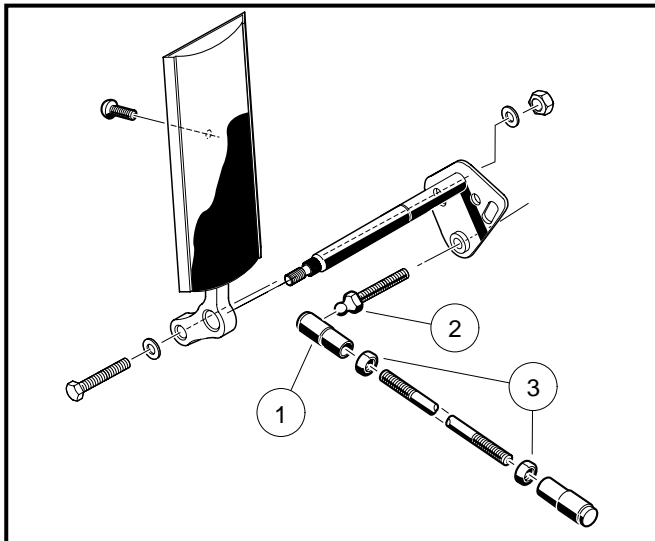
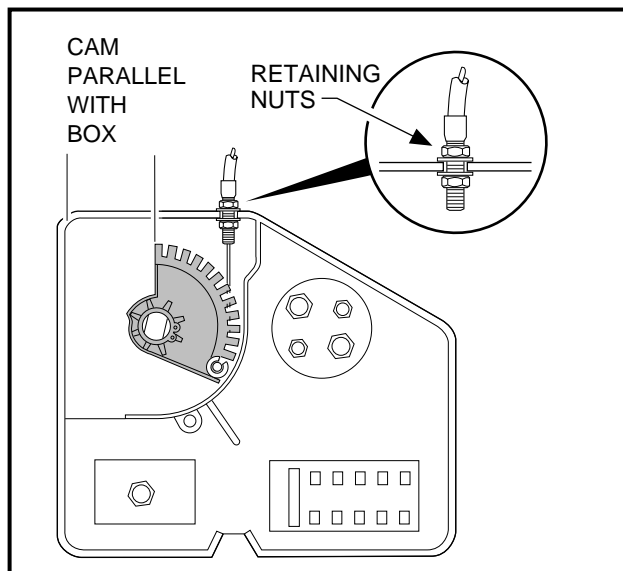
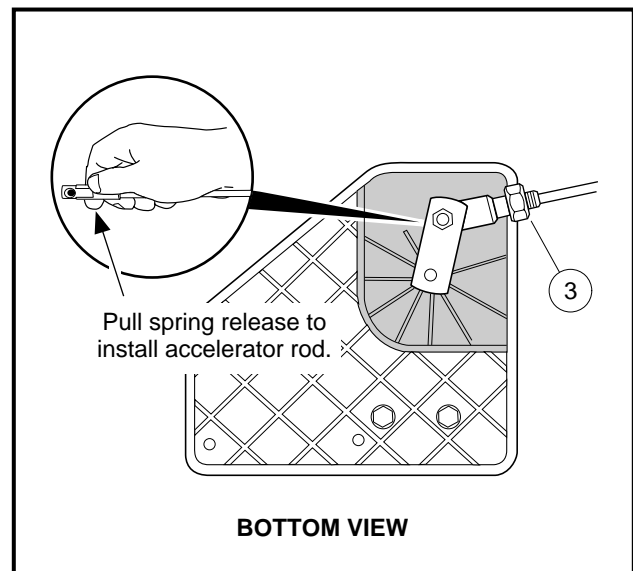

Figure 14-8 Accelerator Rod
Figure 14-9 Cam Position
Figure 14-10 Accelerator Rod
2. Remove the accelerator rod by disconnecting the ball joint (1) from the ball stud (2) on the accelerator pedal (**Figure 14-8, Page 14-9**) and from the bell crank at the electrical box (**Figure 14-10, Page 14-11**).
2. Install the ball joint on the ball stud at the accelerator pedal (**Figure 14-8, Page 14-9**).
5. Adjust length of accelerator rod. With the ball joint jam nuts (3) loose (**Figure 14-8, Page 14-9**), adjust the length of the rod so the indicated cam edge is parallel with the edge of the electrical component box as shown (**Figure 14-9, Page 14-11**). **See following CAUTION.**
6. Install the accelerator rod on the bell crank ball joint on the electrical box (**Figure 14-10, Page 14-11**).
2. Remove the electrical box cover and loosen the cable housing retaining nuts (**Figure 14-9, Page 14-11**).
2. Insert the cable housing into the mounting slot in the wall of the electrical box, with approximately the same number of threads visible between the jam nuts as are visible from the nut inside the box to the end of the cable housing (**Figure 14-9, Page 14-11**). Tighten the nuts finger tight.
6. To **reduce** RPM, loosen the accelerator cable retaining nut on the outside of the electrical box wall and tighten the retaining nut on the inside of the wall until the specified RPM is reached (**Figure 14-9, Page 14-11**). To **increase** RPM, loosen the cable retaining nut inside the electrical box and tighten the nut outside the box until the desired RPM is reached.